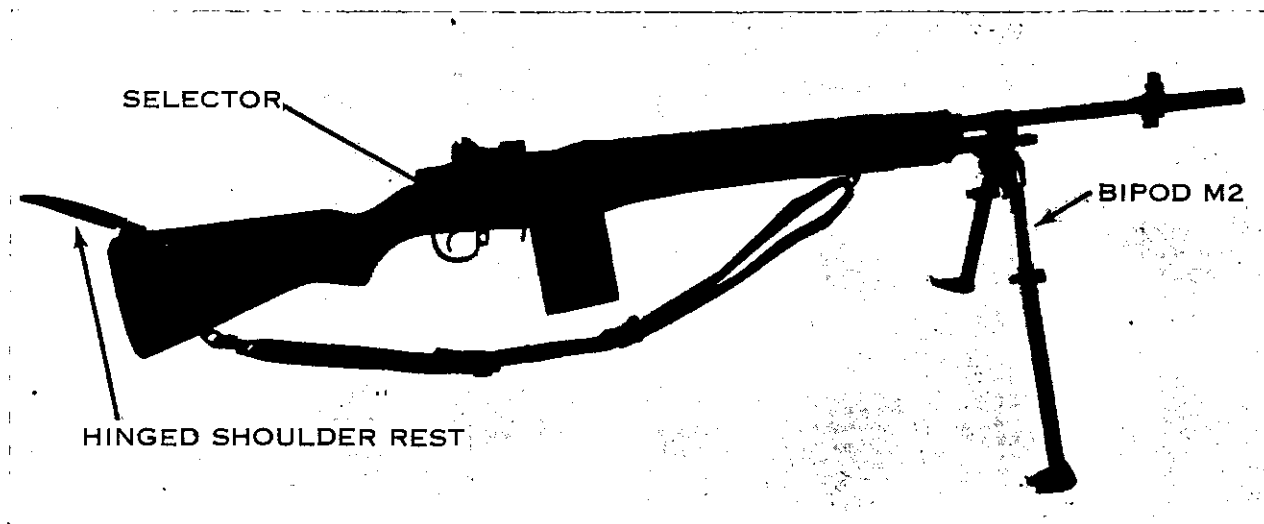

Figure 2. The M14 rifle with selector and M2 bipod.
- (2) When employed as an automatic rifle, the selector and bipod M2 must be installed (fig. 2).
- (3) The flash suppressor is designed with a wide rib on the bottom to reduce muzzle climb and the amount of dust raised by muzzle blast.